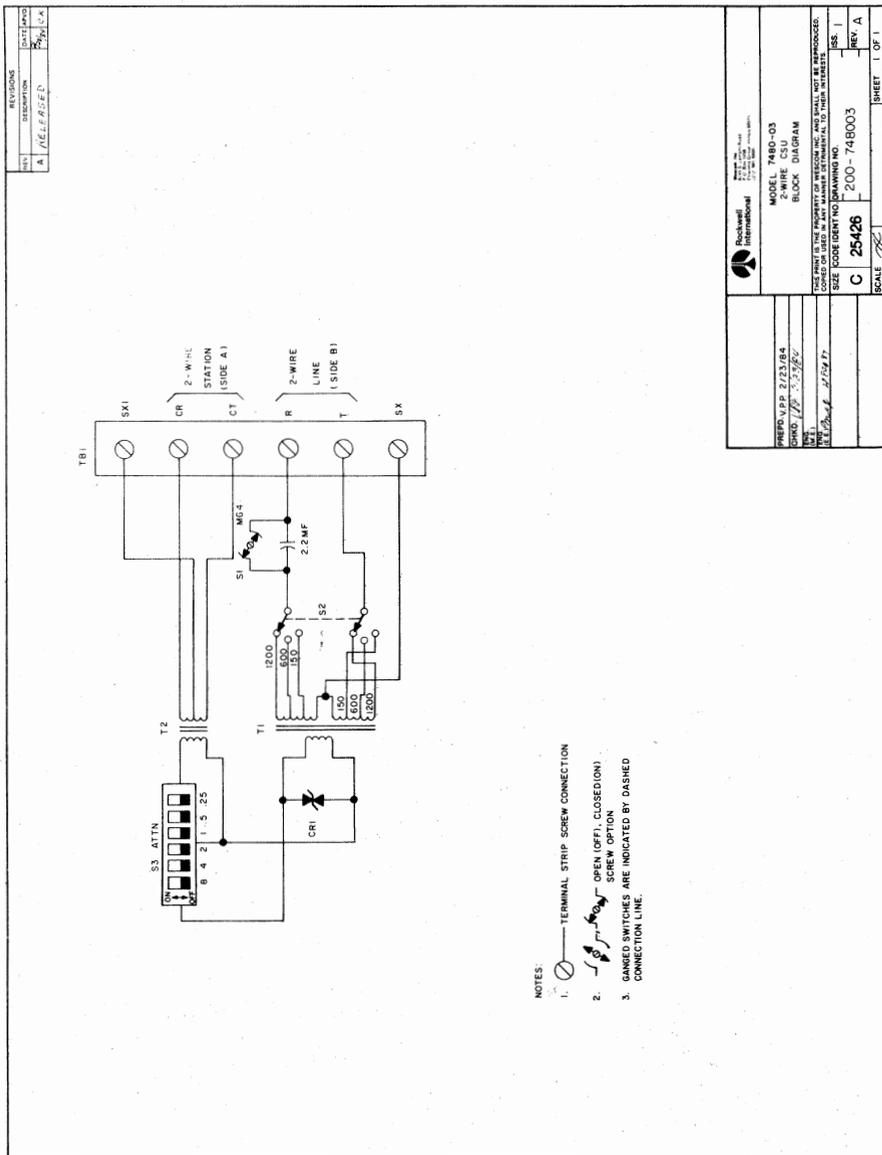

Figure 3. 7480-03 2-Wire CSU Interface Block Diagram
- 3.01 Refer to Figure 3, the 7480-03 2-Wire CSU Block Diagram, while reading the following circuit description.